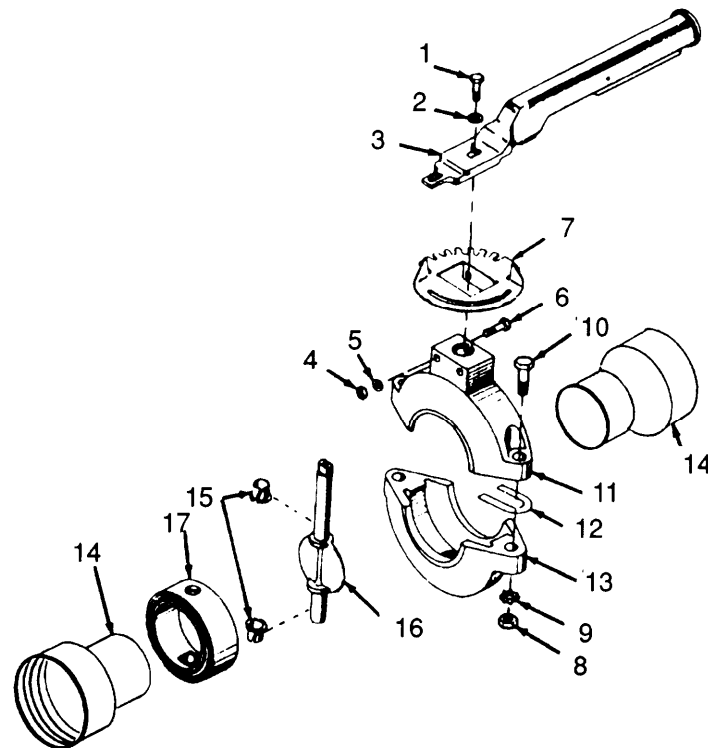

Figure 4-9. Butterfly Valve Assembly, Disassembly/Reassembly.
- (1) Inspect butterfly valve for damaged or missing dust cover and dust plug.
- (2) Inspect butterfly valve for damaged camlock levers.
- (3) Check butterfly valve lever for ease of operation.
- (4) Visually inspect seat disc shaft for wear or damage.
e. Disassembly. (Refer to Figure 4-9.)
- (1) Remove screw (1), washer (2), and handle (3).
- (2) Remove two nuts (4), two lockwashers (5), two bolts (6), and latch plate (7).
- (3) Remove two nuts (8), two lockwashers (9), and two bolts (10).
- (4) Remove upper body half (11) and two spacers (12).
- (5) Remove lower body half (13), two pipe ends (14), and two bearings (15).
- (6) Remove disc shaft (16) and seat (17).
- (1) Refer to Figure 4-9 and install seat (17) on disc shaft (16) and install bearing (15) in lower body.
- (2) Install assembled disc shaft (16) and seat (17) in lower body half (13) and install in lower body.
- (3) Install other bearing (15) and two pipe ends (14) in upper body half (11) and position upper body half (11) on lower body half (13). Install spacers (12) and secure with two bolts (10), two lockwashers (9), and two nuts (8).
- (4) Position latch plate (7) in place and secure with two bolts (6), two lockwashers (5), and two nuts (4).
- (5) Install handle (3) and secure with washer (2) and screw (1).